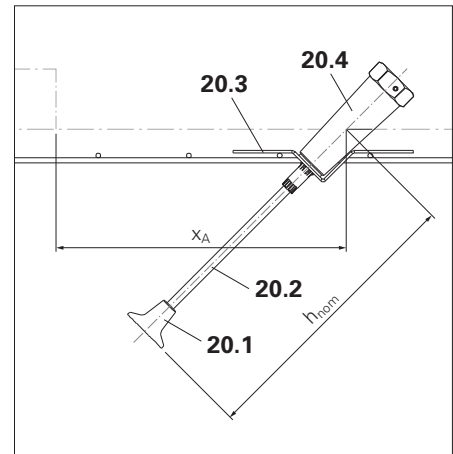

Fig. A2.02a
4. Screw Leading Anchor Coupler DW 15 (20.4) onto tie rod. (Fig. A2.02a)